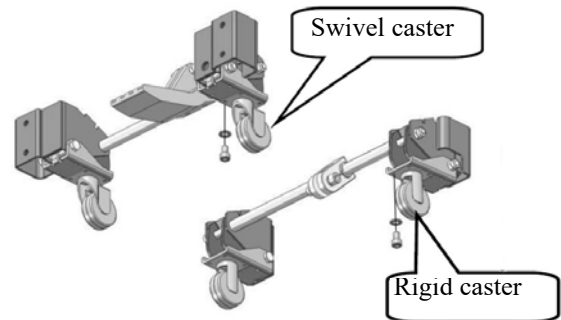

Fig. 8: Assembly of the transport rollers
Step 3: Fit the 2 castor wheels (Fig.8) to the front castor bracket using the cap screws and washers.
Step 4: Fit the 2 rigid castors (Fig.8) to the front castor bracket using the screws and washers..